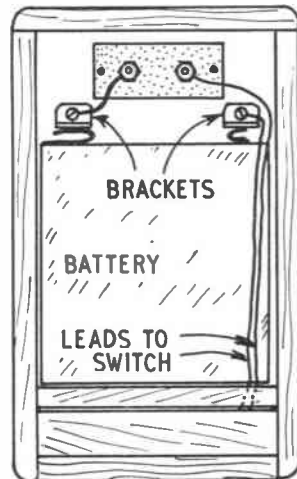

Fig. 3—Back of lighter
Fig. 3 shows the completed lighter, as seen from behind. The front, top, sides
A 3-cell  $4\frac{1}{2}$  V. battery, with brass contacts doubled over, is inserted in the case, and two small brackets, cut from brass, are screwed in the positions shown in Fig. 3. The battery strips are bent as necessary to make good contact with these brackets.
The electrical connections are shown in Fig. 3, and should be really tight. The element coil should light a bright red as soon as the button is pressed, and the button must be released immediately a
To make the cup, fold the paper square in half along one diagonal (Fig. 1). Then fold corner (B) to point (X) (Fig. 2), and fold corner (A) to point (Y) (Fig. 3).